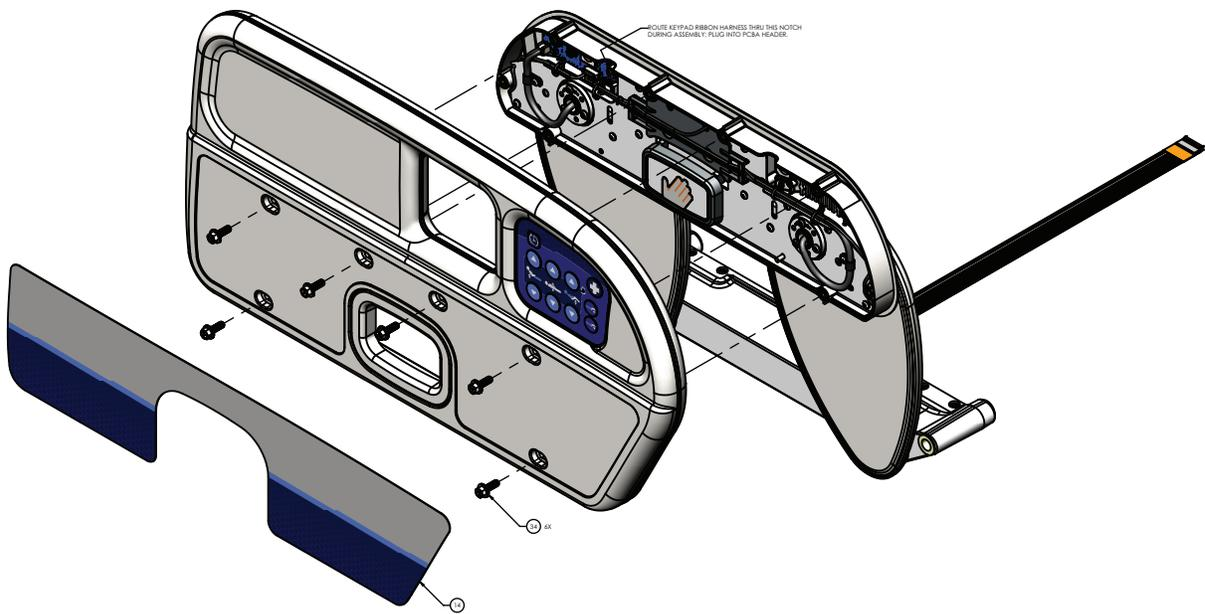

Figure 41 – Head siderail control board replacement
6. Using a pick, remove and discard the outer siderail label (14) (Figure 41).
7. Using a 3/8" nut driver, remove and save the six bolts (34) that secure the siderail hoop (13) to the siderail assembly (Figure 41).
8. Loosen the siderail hoop (13) from the siderail assembly and disconnect the cable that connects the siderail hoop (13) to the siderail control board to remove and save the siderail hoop (13).